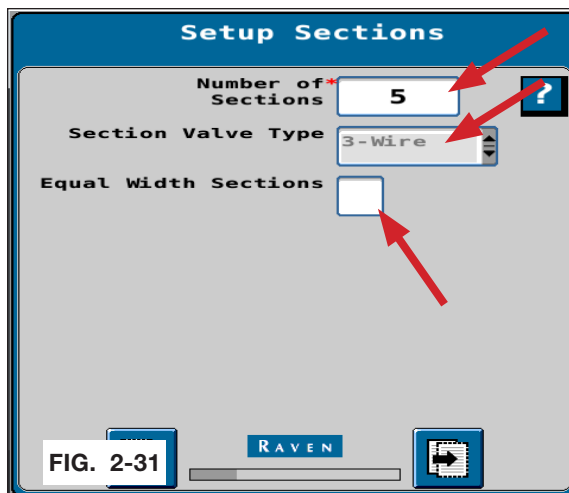

FIG. 2-31
- Under “Number of Sections”, select 5 for 40 FT. - 66 FT. units or 6 for 80 FT. - 90 FT. units. Default for “Section Valve Type” is 3-Wire. Uncheck “Equal Width Sections” box. Click next. (FIG 2-31)